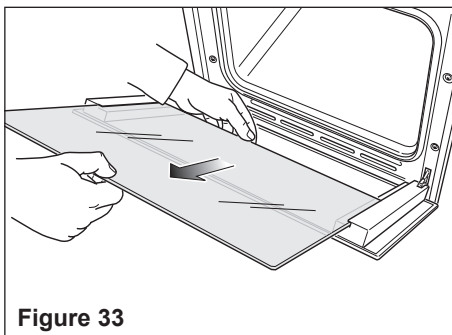

Figure 33
- Gently pull out the inner pane of glass (fig. 33).